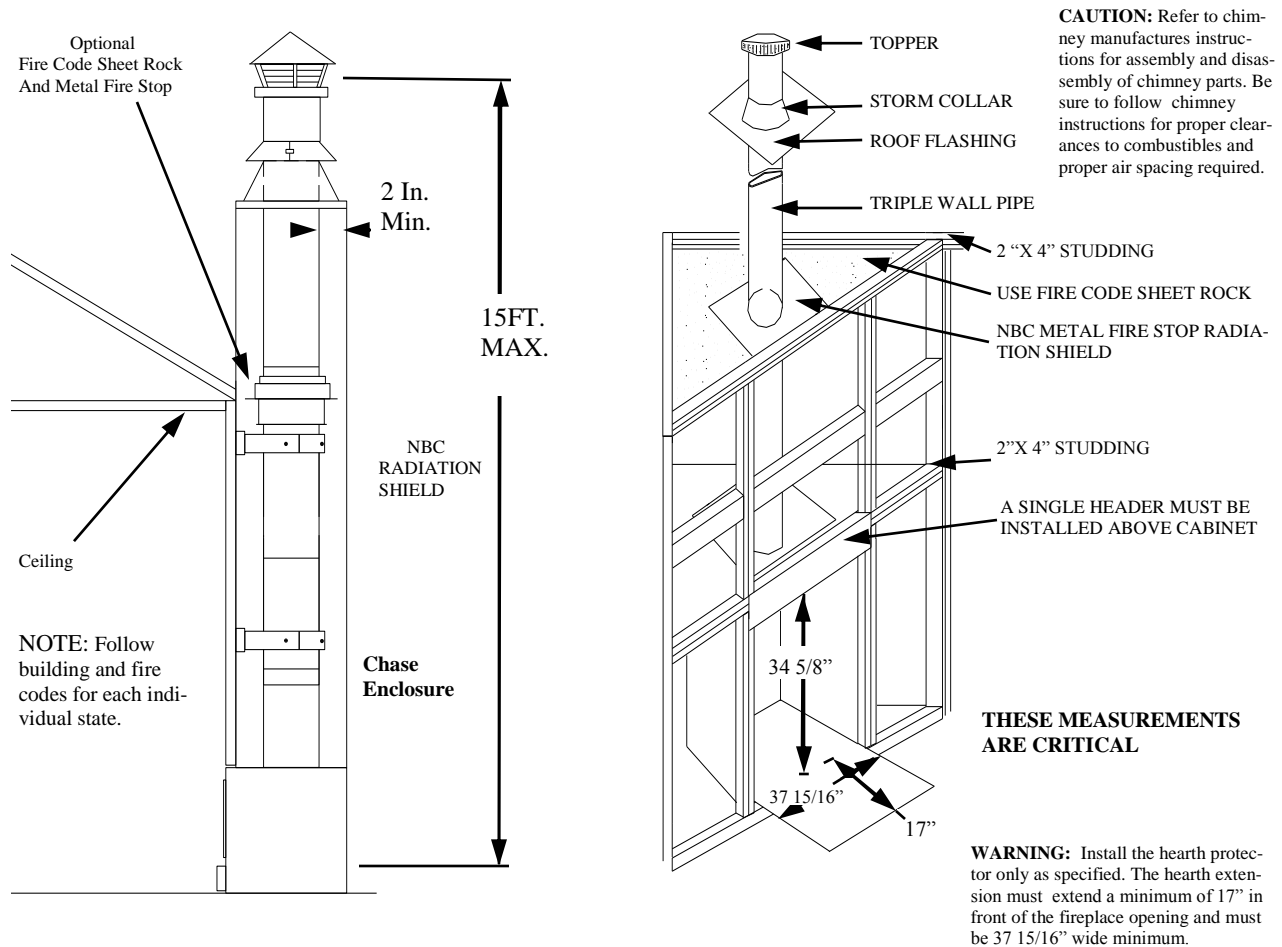

FIGURE 10 CHASE ENCLOSURE AND CORNER LOCATION FRAMING
- b) 2"x4" framing above unit must be turned flat. This allows proper clearance from framing to chimney (2" minimum). (See Figure 10).